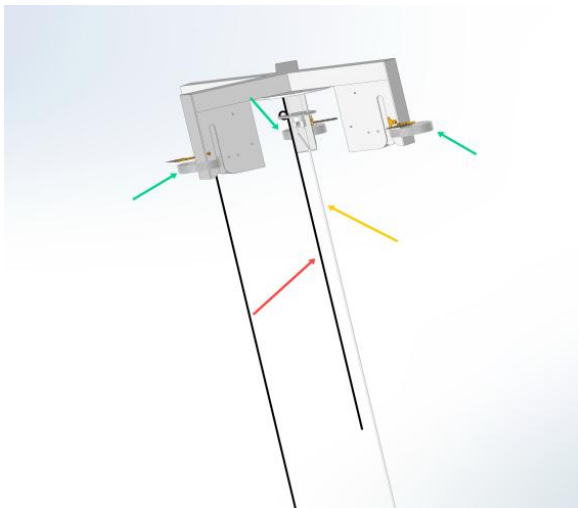
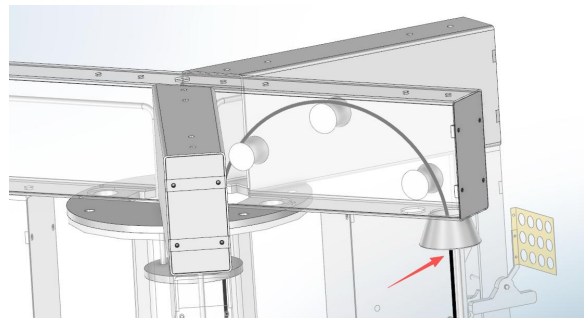
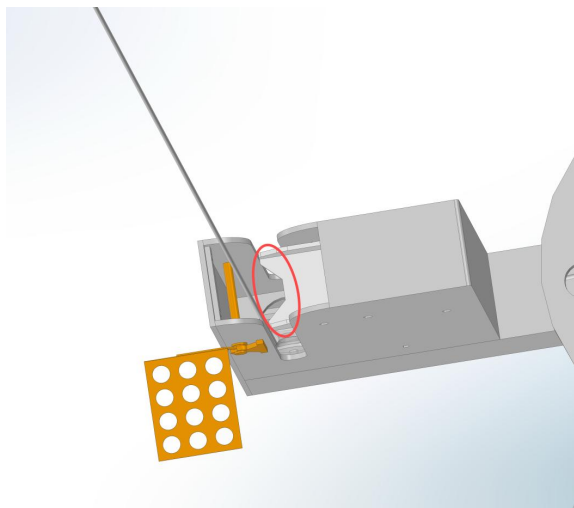

Figure 1
Figure 2
Figure 3
1. Feed the main cable—the black line indicated by the red arrow in Figure 1—down through the adapter plate by 1.5 m and secure it. Route the other end out through the cable passage, as shown in Figure 2.
2. Feed the main hoisting wire rope—the white line indicated by the yellow arrow in Figure 1—down into the pole shaft from the top.
3. Uncoil the suspension wire ropes indicated by the green arrows in Figure 1. Check that they pass through the pulley channels. Do not allow the ropes to move outside the V-shaped guide circled in red in Figure 3.